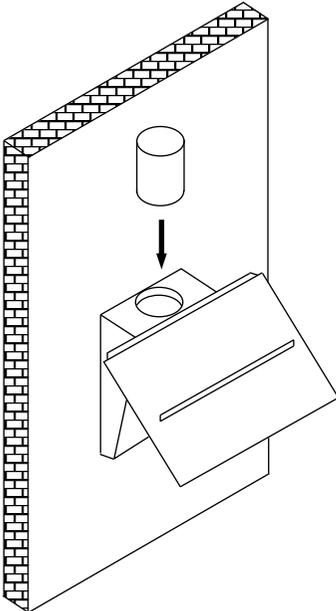

Fig 9
7. Attach ducting to the top of the Vivaldi (if not using back outlet (Fig 9)).